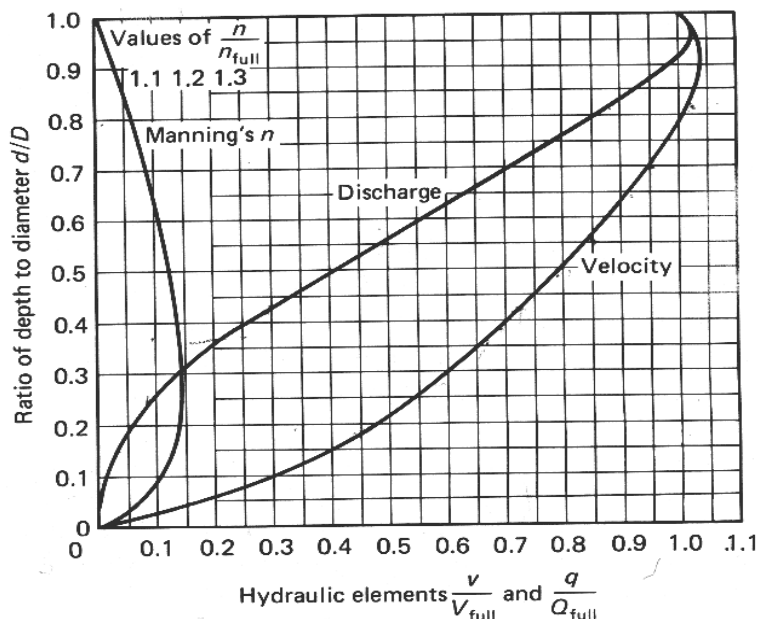

FIGURE 16-6
- Figure 16-6 is useful in estimating partial flow values (q , d , v) from full-flow conditions (Q , D , V).
$d/D = 737/1228 = 0.6$ then from Fig. 16-6 $q/Q = 0.55$ and $v/V = 0.87$
Then $d/D = 0.5$ and from Fig. 16-6 $\rightarrow q/Q = 0.4$ and $v/V = 0.8$
Then from Fig 16-6 at $q/Q = 0.44 \rightarrow d/D = 0.52$